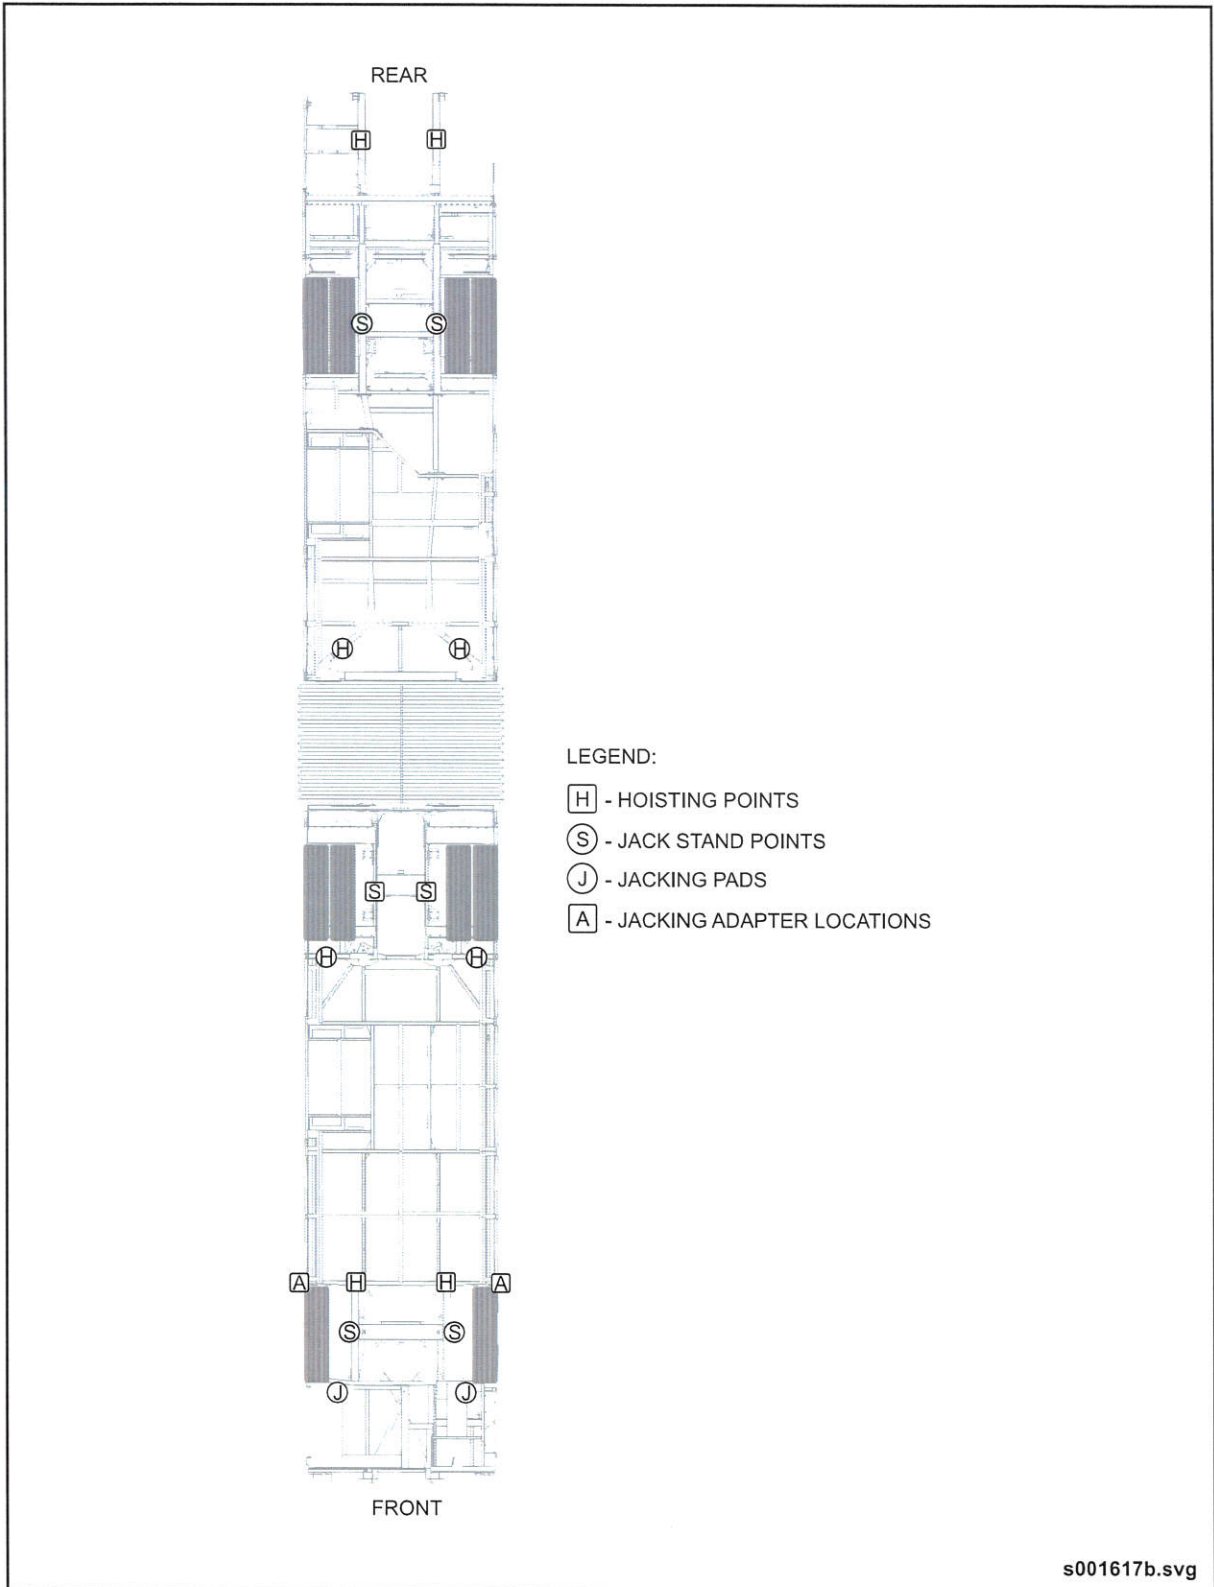

Fig. GI-22: Jacking (hoisting) Points & Stand Placement
- a. Locate the appropriate jack stand point under the frame rail at the rear of the vehicle. See "Fig. GI-22: Jacking (hoisting) Points & Stand Placement" on page 40.